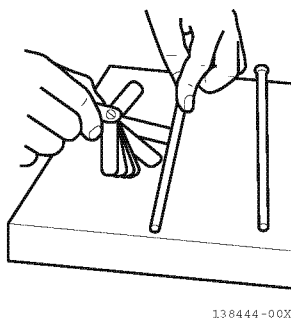

Figure 6-17
3. Use a feeler gauge to measure the gap (Figure 6-17). See *Push Rod* on page 6-6 for the service limit.